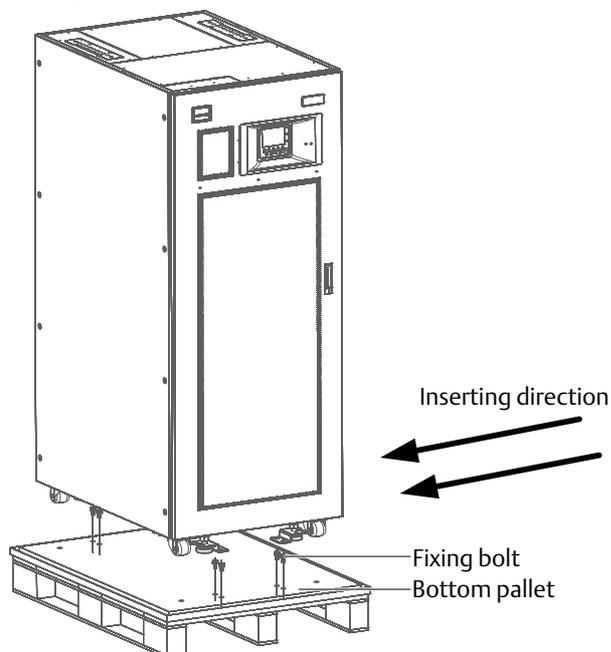

Figure 2-4 Removing bottom pallet
2. Remove and store the bolts that secure the UPS to the pallet (see Figure 2-4). Then, use the forklift (inserting the forks in the direction indicated in Figure 2-4) to move the cabinet to the place where it is to be installed.